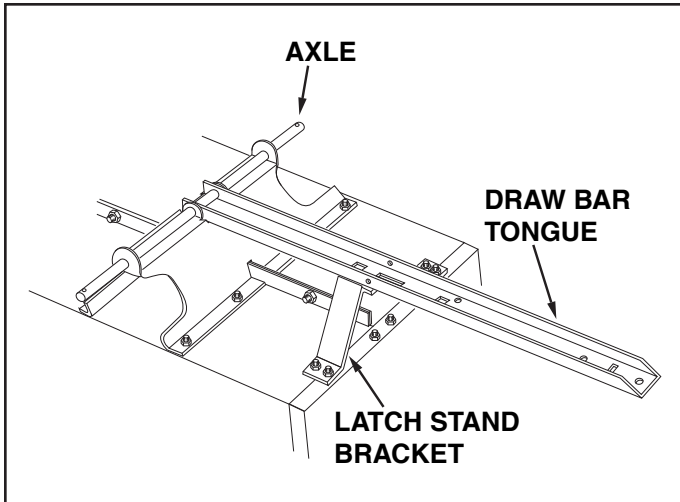

FIGURE 9
- To prevent accidental tipping during the following assembly procedures, lower the cart to rest upside down on its top flanges, so that the wheel support is facing up. See figure 9.
- Lay the drawbar tongue (open side facing up) onto the Wheel Support and the Latch Stand Bracket. Assemble the axle through the wheel support and the tongue. See figure 9.